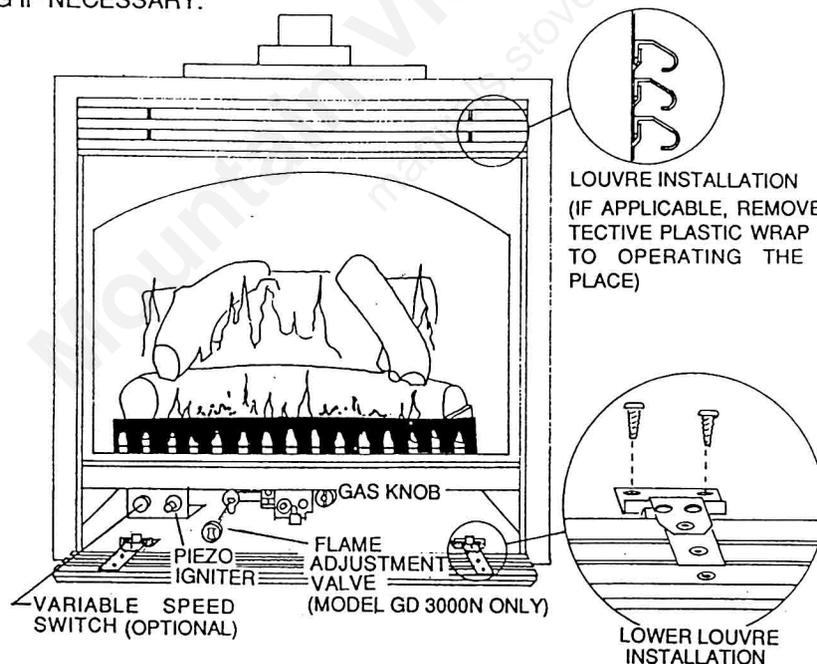

FIGURE 30
3. Check to see that all the burner ports are burning. Clean out any of the ports which may not be burning or are not burning properly (Figure 30).